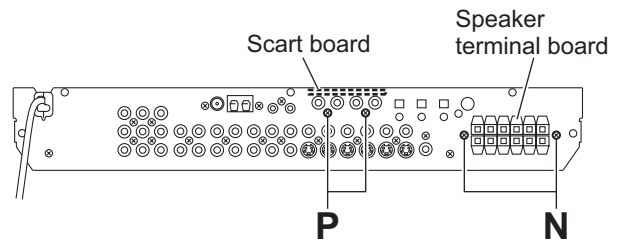

Fig.15
- From the back side of the main body, remove the two screws **N** attaching the speaker terminal board. (See Fig.15.)
- From the back side of the main body, remove the two screws **P** attaching the scart board. (See Fig.15.)